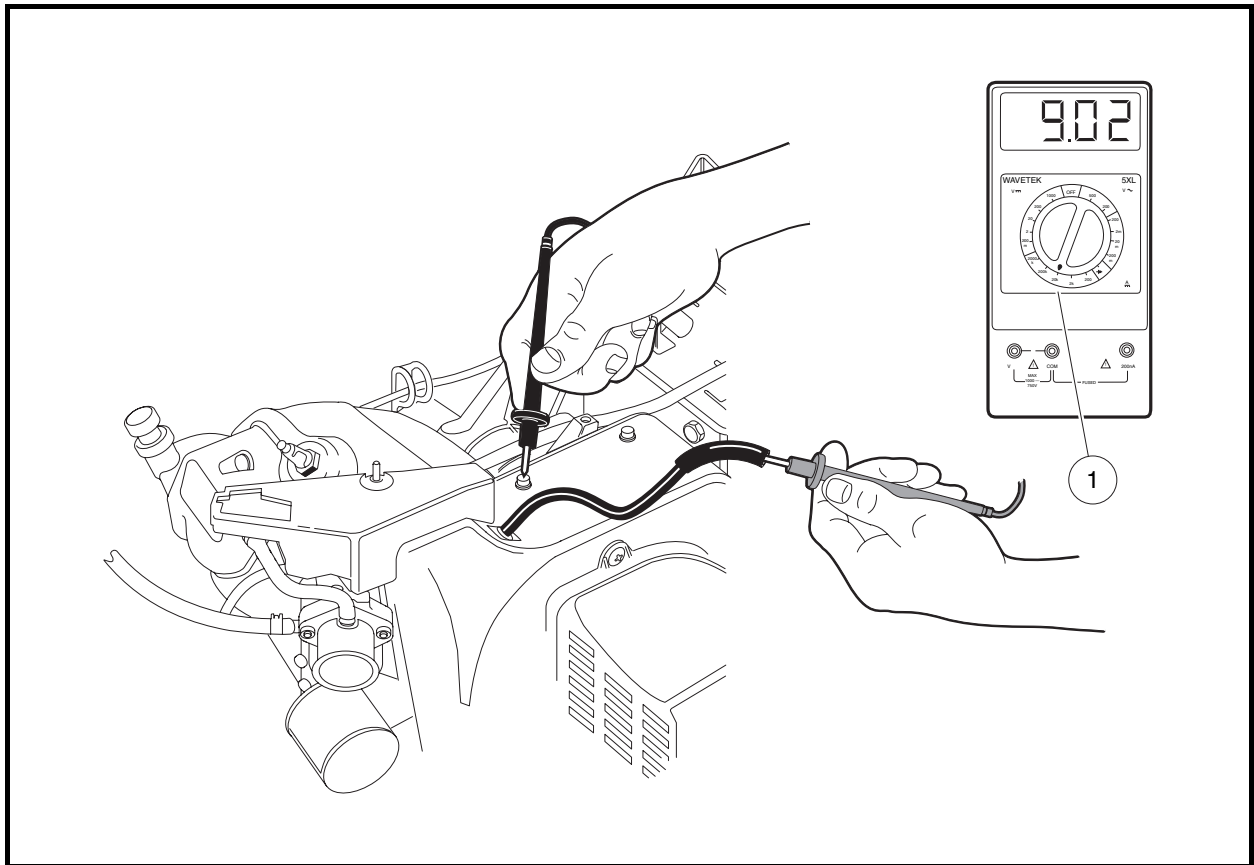

Figure 12-24 Secondary Coil Test Without Cap
- 5.1. Using a multimeter set to 20k ohms, place the red (+) probe of the meter into the end of the spark plug wire and place the black (-) probe on a clean unpainted surface of the engine or frame (**Figure 12-24, Page 12-24**). If the resistance is between 6.0k - 11.0k ohms, the secondary coil is within acceptable limits. If the resistance is not between 6.0k - 11.0k ohms, bench test the ignition coil. **See Test Procedure 15B – Ignition Coil – Bench Test on page 12-25.**